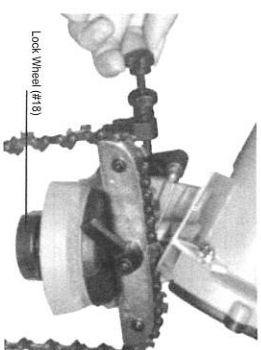

FIGURE 11
6. Loosen the **Lock Wheel(#18)** and reset the angle so that the first tooth that hasn't been sharpened is positioned against the **Chain Stop (#23)** and locked in as explained on page 6. See **FIGURE 11**.